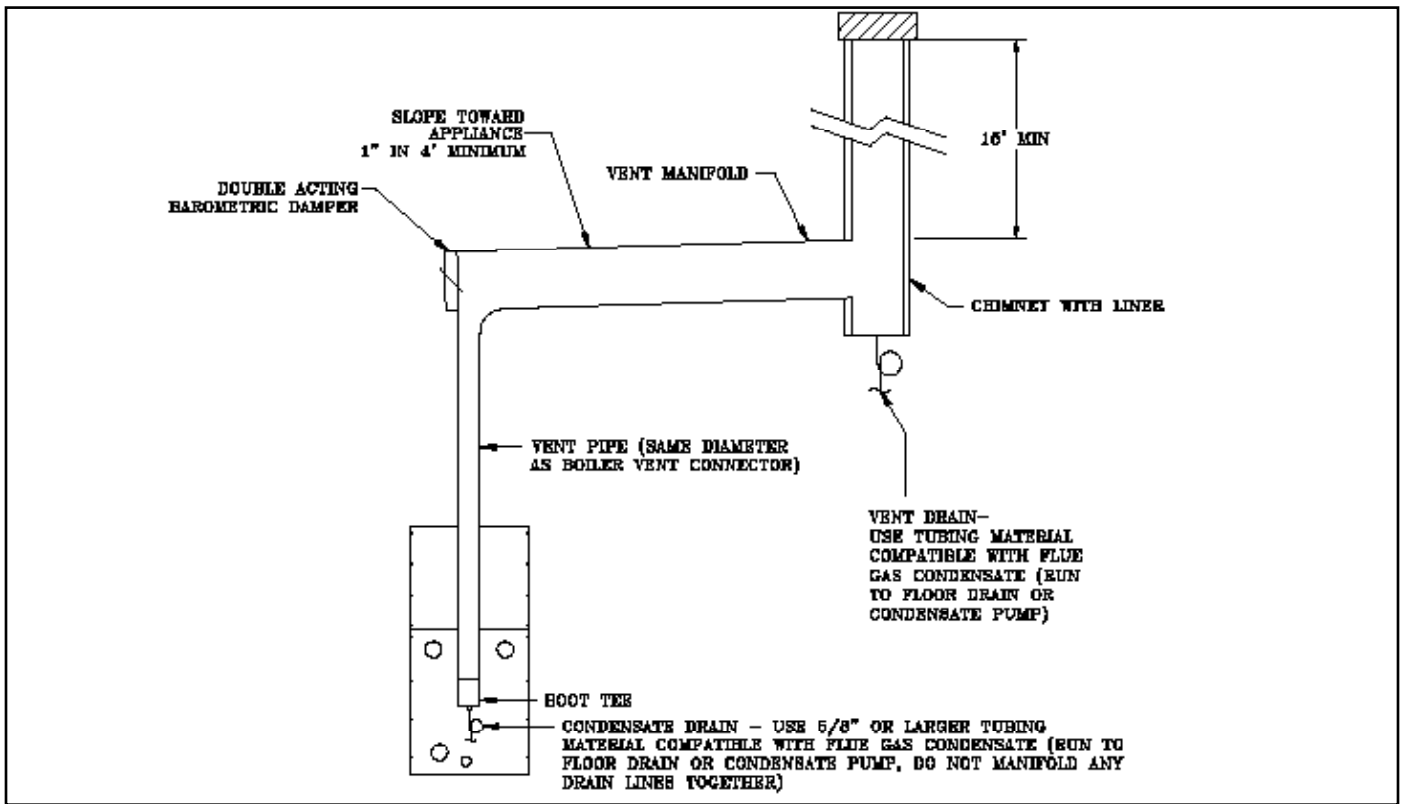

Figure 5: Typical Negative Pressure (Conventional) Venting
1. Refer to Figure 5 for an example of a typical conventional venting arrangement.